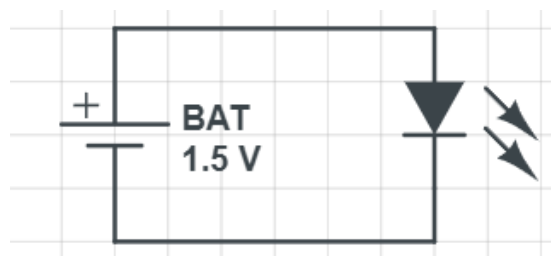

Figure 2
Set up the circuit in Figure 2, below, using the **1.5-volt battery**. (GS) When using a very simple circuit and the 1.5V battery, does the LED work? (GS) Explain what is happening with the simple circuit powered by the 1.5V battery. Why is the LED doing what it is doing.?